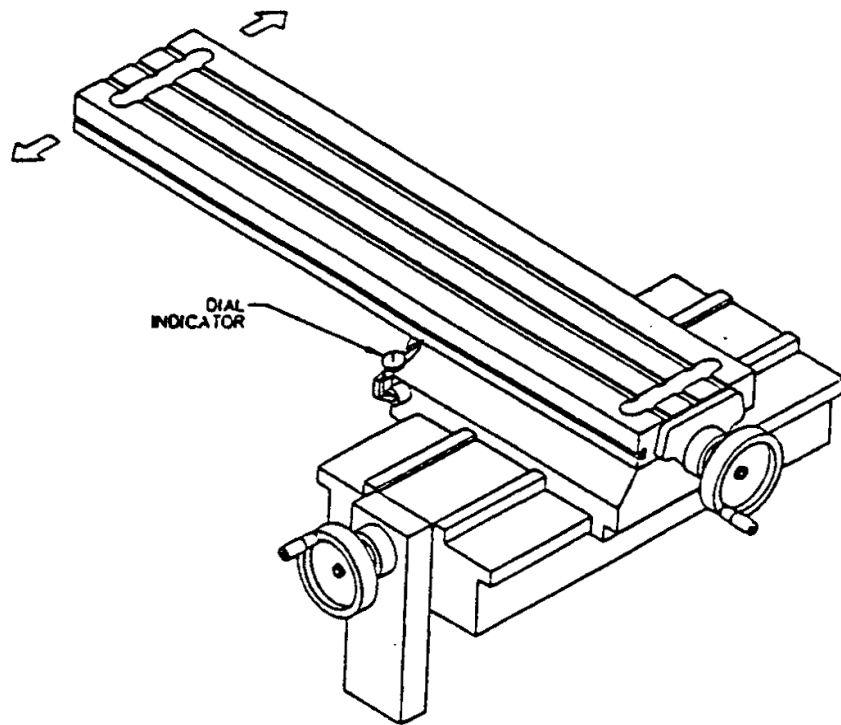

Figure 38 – DPMV3 Table Gib Adjustment
5.2.1.1 Table Gib Adjustment, X-Axis – DPMV3 (See Figure 38)